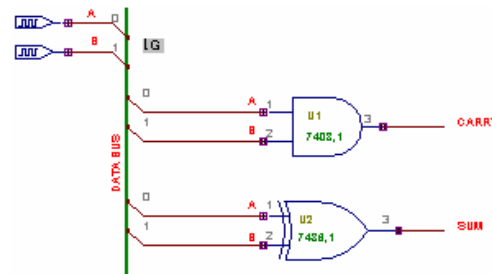

Fig 5.8
E.g.: In the case of a Half Adder circuit, it has to be the input wires A and B. Click on A, an input box appears with a drop down list from where the required string for the clock pulse can be selected or a new string can be typed in. Enter the string (L20u, H20u), a label G! gets tagged to the cursor, place it next to the wire A. Similarly click on B and enter the string (L10u, H10u) or select a string from the existing list. (Refer Fig.5-8).